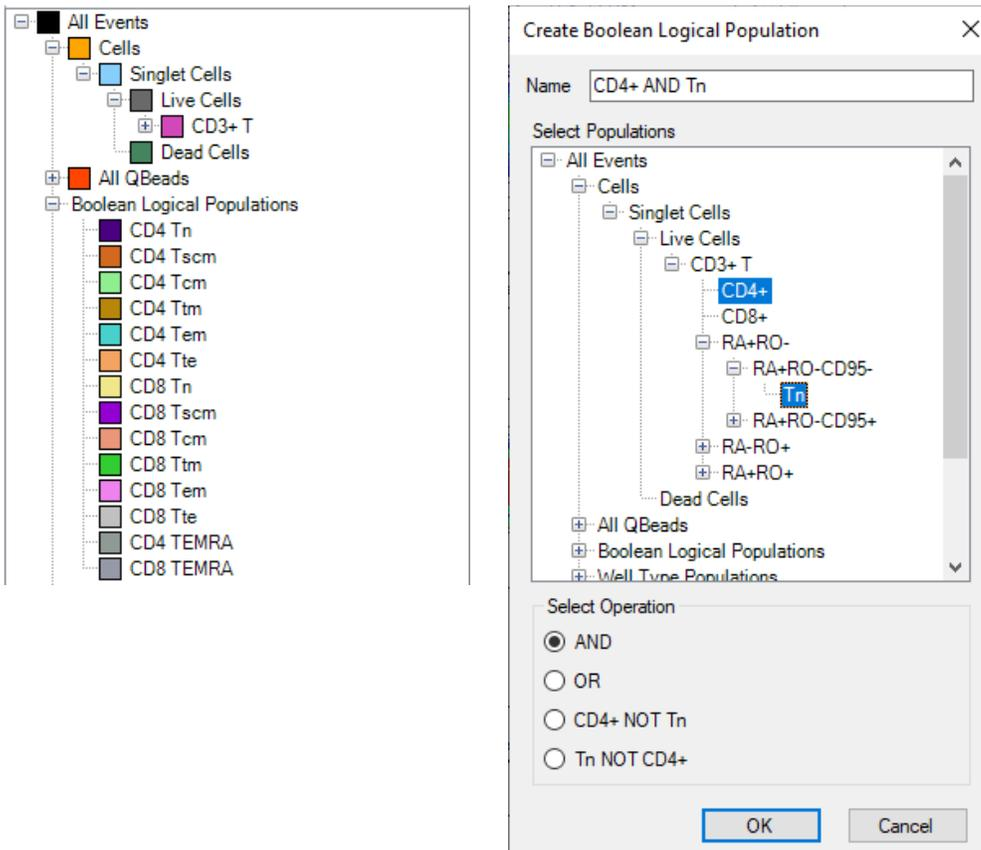

Figure 9. Creating Boolean Logical Populations
- 13.4 Create 14 Logical Populations to Analyze Different CD4+ or CD8+ T Naïve | Memory | Effector Cells (**Figure 9**):